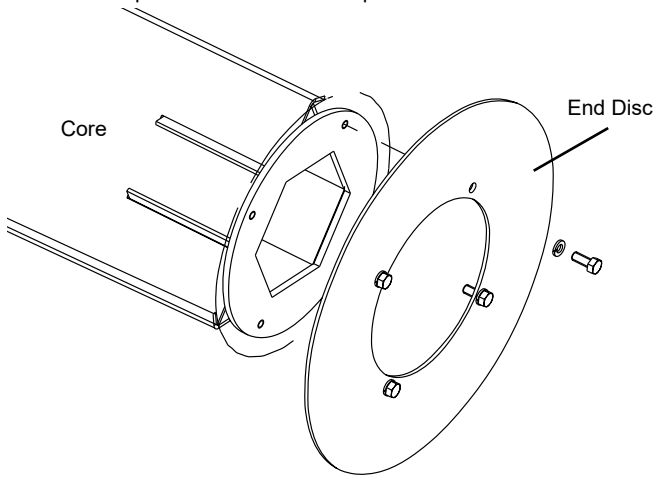

Figure 10
1. Remove (4) capscrews, lock washers and end disc (wafer retainer plate) from one end of core. Retain end disc and mounting hardware. See Figure 10.
5. Install end disc on core with original hardware. See Figure 10.